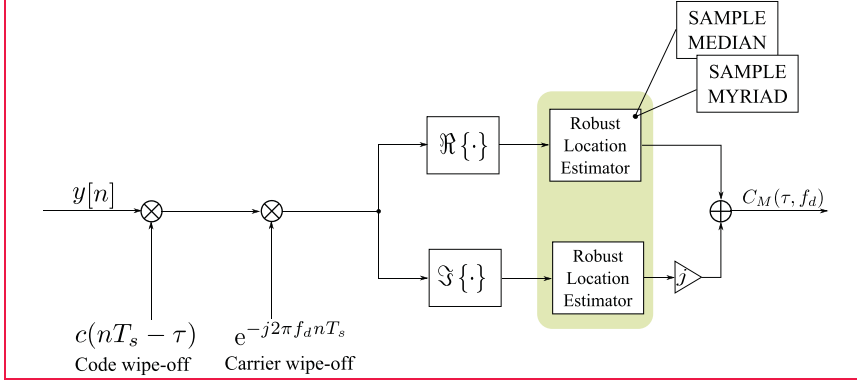

Figure 6: Robust CAF obtained using the filter bank approach (from [2])
of a GNSS receiver is to act directly on the filter bank (correlator) structure of acquisition and tracking. In particular, the mean performed in (3) can be replaced by robust alternatives such as the sample median and the sample myriad operators [9]. The myriad is a location estimator that is obtained when a Cauchy distribution is considered. As for the myriad non-linearity defined in (12), it depends on the linearity parameter,  $K$ . In the next section,  $K$  will be fixed to the value determined in [4]. Using these considerations, the processing scheme depicted in Figure 6 is obtained.